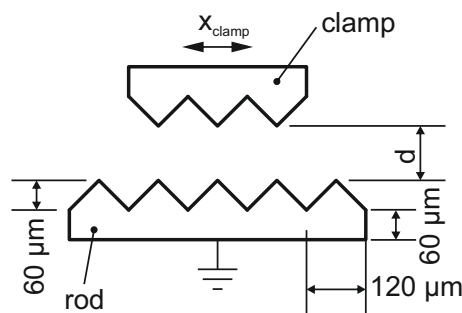

Figure 1: Capacitive sensor, principle and dimensions.
One of the research projects at LSE deals with the development of a linear stepper motor that follows the inch-worm principle (see showcases at the LSE). To increase the possible workload of such a motor, the driving rod and the clamping device are equipped with micro-teeth. Figure 1 shows the dimensions of the micro-teeth.
- 1.1. Model the geometry as depicted in Fig. 1 (driving rod with 5 teeth, clamping device with 3). The sensor operates in air, so make sure to model adequate air regions as well. The geometric parameters should easily be modifiable, in particular the lateral position  $x_{\text{clamp}}$  of the clamp with respect to the rod should be variable between  $-60\ \mu\text{m}$  and  $+60\ \mu\text{m}$ .